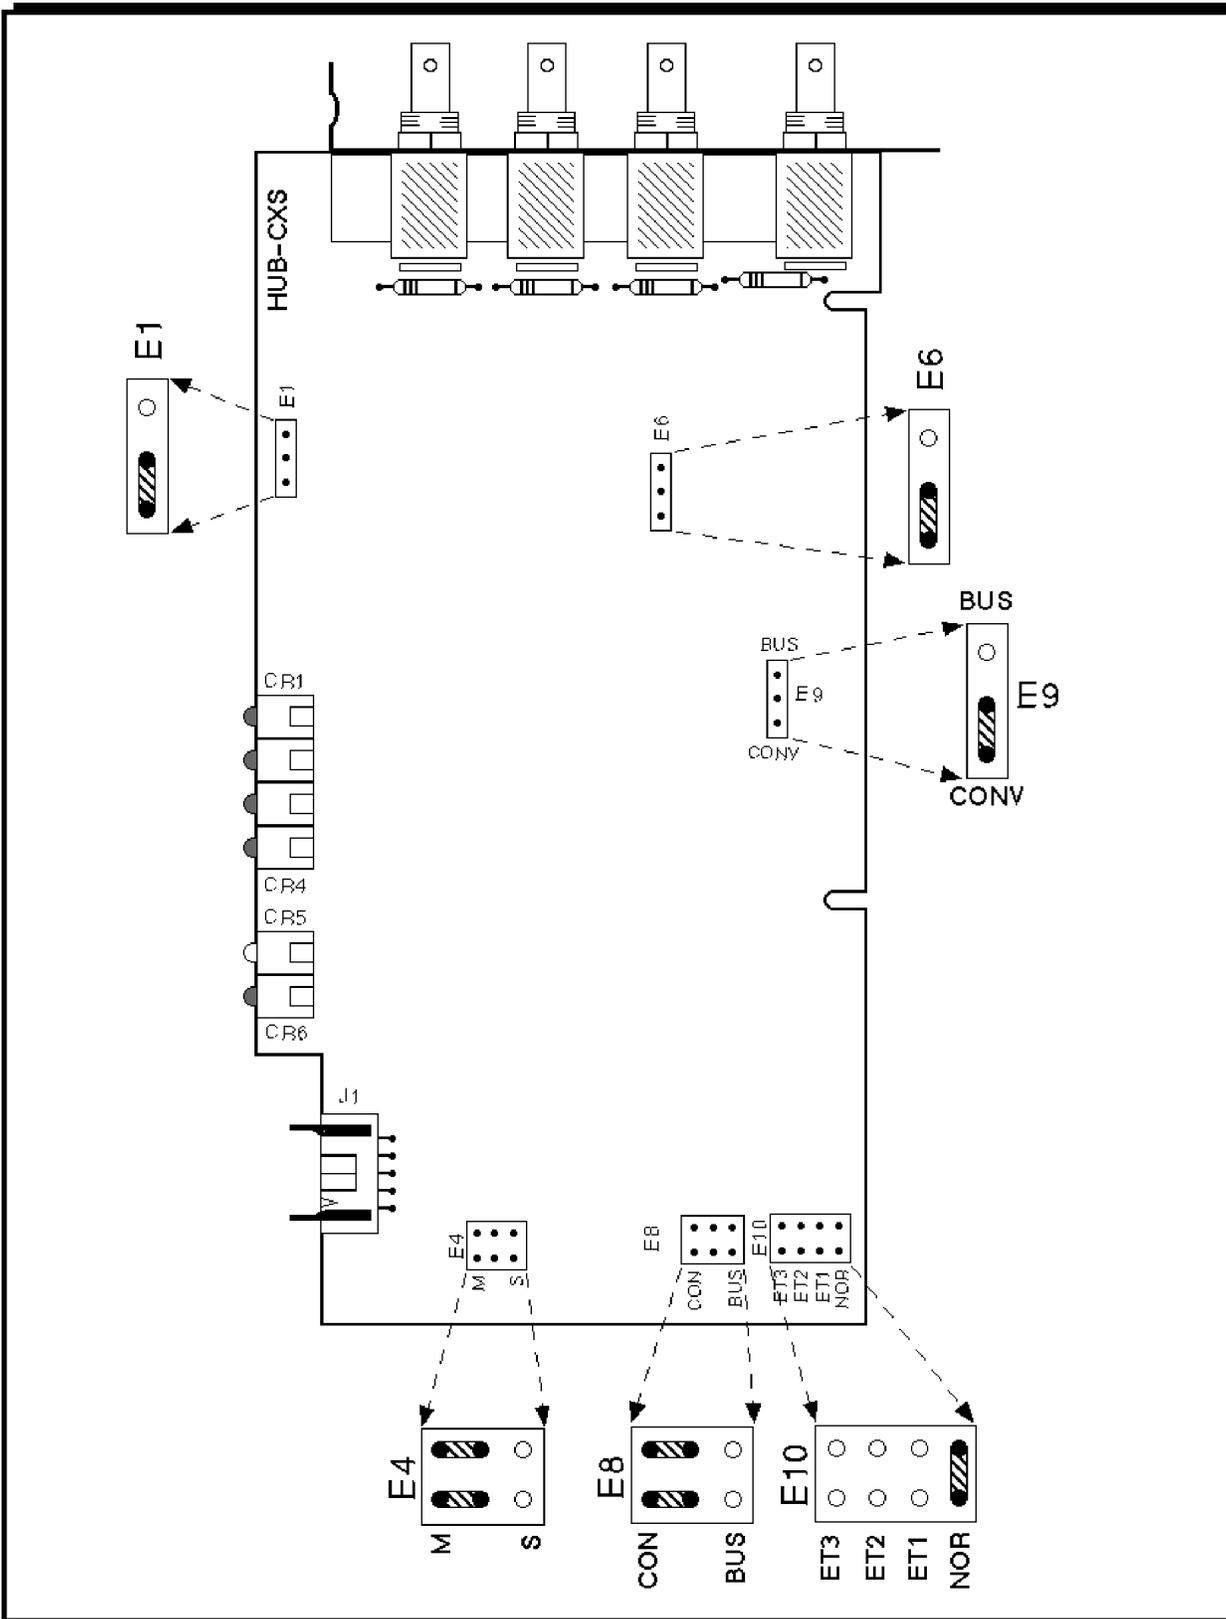

Figure 1. Top View of Hub Card Showing Jumper Positions For Single Hub Card System
3. Before proceeding, verify all jumper positions shown in Figure 1.
Important Note: Verify the jumper positions (see Figure 1), and read "LAN Cabling Rules and Guidelines" before installation or operation.